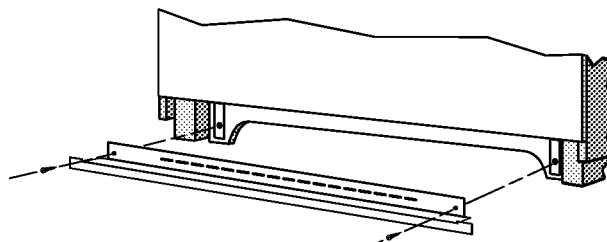

FIGURE 1
5. See figure 1 for lower trim installation.